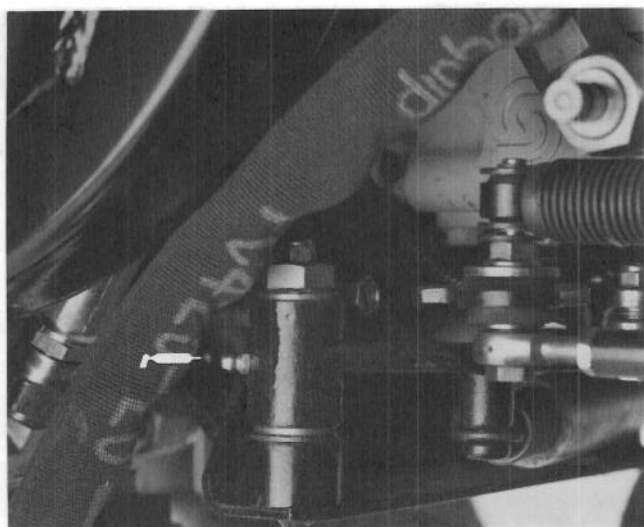

Figure 33
Two and Four wheel drive machines – #1 Lift arm pivot (1), #1 lift cylinder (1), brake arm pivots (2) (Fig. 28); #2 & 3 lift arm pivots (2), #2 & #3 lift cylinders (2), brake pivot (1) (Fig. 29); brake pivots (2) (Fig. 30); traction pedal pivot (1) (Fig. 31); reel speed shaft (1) (Fig. 32); traction adjuster (1) (Fig. 33) and the transmission shift linkage (1) (Fig. 38)